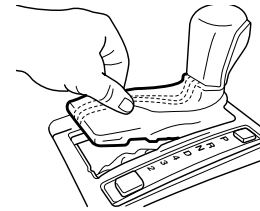

FIGURE 12
1. Pull up on the rear part of the leather boot that surrounds the shift lever (figure 12).